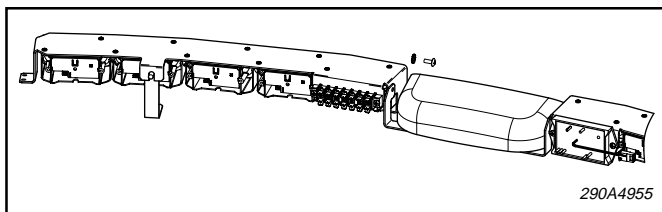

Figure 4.
a. See figure 4. Slide the light head assemblies into position with the U-notch over the stud in the rear deck support bracket assembly.